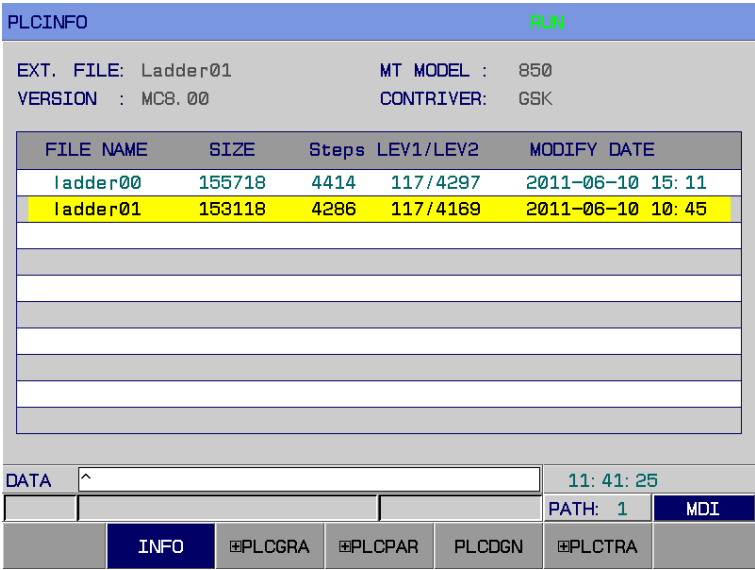

Fig. 1-2-1-1
1. Enter the programmable page by pressing the <program-controlled> key; enter the INFO interface pressing the **[INFO]** soft key, refer to the fig. 1-2-1-1. Also, it can be set under the PLC interface defining the bit parameter No: 26#6=1, and then enter the INFO interface pressing the <program-controlled> key again. This interface offers some relative information of this system, such as the version number, modification data.
Enter **PLCGRA** interface pressing the **[PLCGRA]** soft key, it also can be set under the PLC interface defining the bit parameter **N0: 26#6=1**, and press the <programmable> key to shift the screen entering the **PLCGRA** interface. Refer to the Fig. 1-2-1: